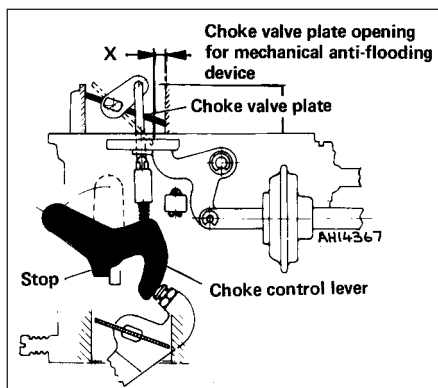

Fig. 3.26 Anti-flooding device (mechanical) adjustment diagram
9 With the choke control pulled fully out, it should be possible to open the choke valve plate to give a gap (X) of between 7.0 and 7.5 mm (0.28 and 0.30 in). If adjustment is required, carefully bend the stop on the control lever (Fig. 3.26).